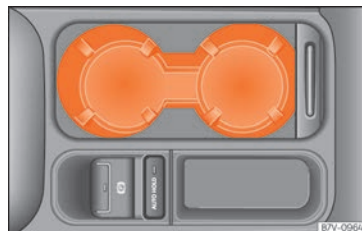

**Fig. 169** Front centre console: drinks holder.
- To open, move the cover backwards »» **Fig. 169**.